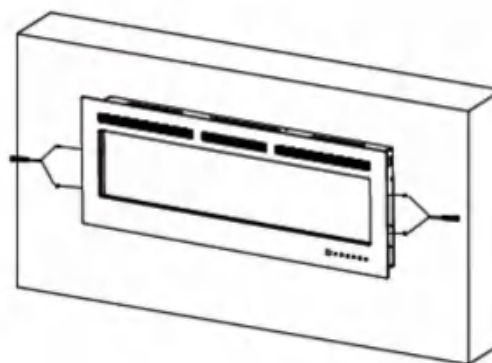

Figure 7
- J. Reinstall the front glass using the screws that were removed during Step C. Ensure the glass is fully secured and stable before proceeding. [Figure 7]